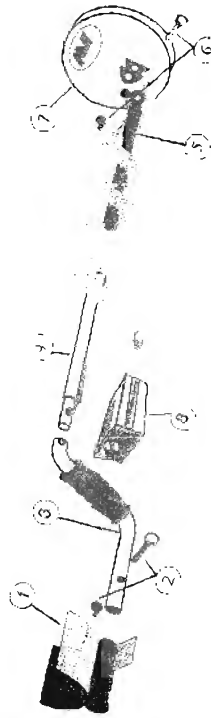

Figure 1 - Assembly of the XT 17000
Figure 1 shows normal searching without AGT. Ground noises reduce the effective searching depth where you move from where you last ground balanced. The shaded area shows ground which is not properly searched.
- A. Remove the black nylon bolt and nut (2) from the armrest (1).
- B. Slide the armrest (1) (with the support fins pointing to the ground) onto the end of the grey upper shaft (3) furthest from the foam handgrip (as is shown in figure 1). Line up the holes at a comfortable position for the length of your arm.
- C. Push the nylon bolt (2) through the holes and tighten the wing nut by hand.
- A. Slide the intermediate shaft (4) into the upper shaft (3) taking note of the position of the black "Y" clip (as shown in figure 1). Ensure that they click together correctly and will not easily come apart.
- A. Remove the tape on the lower fibreglass tube (5) which is holding the black teardrop washers in place. Make sure the washers do not fall out after removing the tape.
- B. Remove the white nylon nut and bolt (6) from the coil (7).
- C. Push the lower fibreglass tube (5), with the teardrop washers in place, into the bracket on the coil so that the holes line up. Make sure that the black nylon spring clip, near the top of the fibreglass tube, is pointing toward the rear of the coil.
- D. Push the white nylon nut and bolt (6) (as shown in figure 1) through the holes in the bracket on the coil from the cable entry side; then place the spacer and wing nut on the other end of the bolt and tighten by hand.
- A. Slide the lower shaft assembly into the intermediate shaft (4). Note that the black plastic locking nut may need to be loosened to get the lower shaft assembly in.